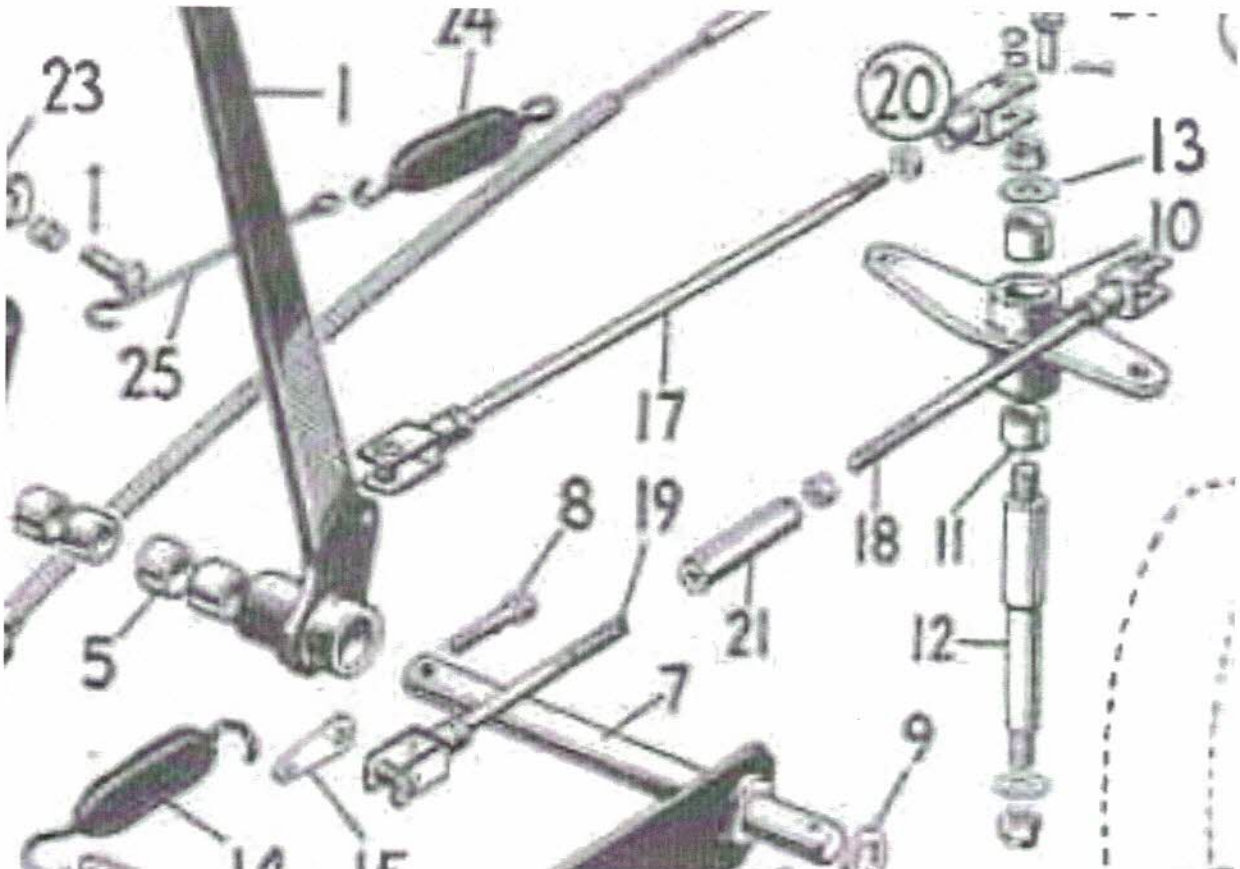

Figure 2- Page 42. The longer arm is connected to the pedal and slopes upwards.
Besides adjustment the main issue concerns the correct placement and lubrication of the clutch reversing lever (10). The correct placement is important for both leverage and clearance purposes. The TA21 Catalogue of Spare Parts shows the orientation and is reproduced in Figure 2 below
The lever pivots on two bushes (Fig. 2 - 11). The original bushes were the sintered bronze type hence The Works made no provision for further lubrication. This type of bush consists of tiny bronze spheres which are compressed under high pressure. As a result there are tiny cavities between the spheres which retain oil when filled. {The same type of bush is used in the rear of the generator and is kept filled by the wick lubricator.} Given the age of our cars it begs the question as to when they were last inspected for both wear and lubrication. There is also the possibility that at some stage the bushes have been replaced with the ordinary non-sintered type. This type will require greasing.
Due to the amount of wear at the ends of the lever, I sourced a NOS replacement from Red Triangle, which included bushes. I used an old technique and immersed the entire unit in very hot engine oil in order to drive out the air from the bushes and allow for the ingress of oil as it cooled. With the aid of Figure 2, correct reassembly was straightforward.